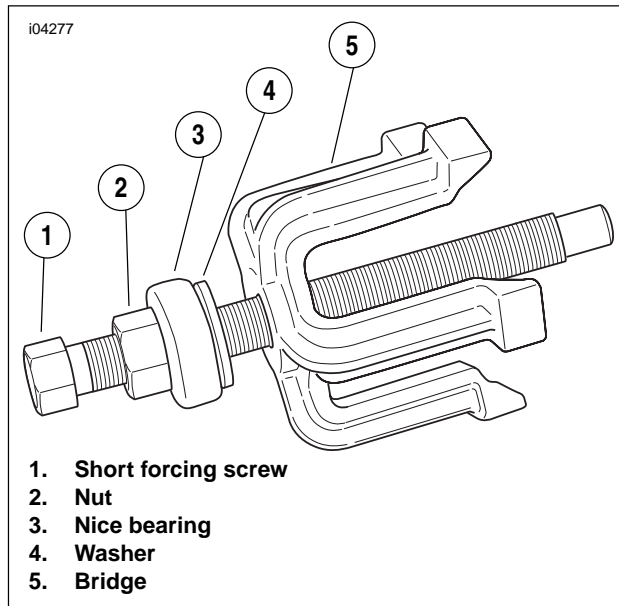

Figure 2-6. Assemble Puller
1. See Figure 2-6. Remove wheel bearings using WHEEL BEARING REMOVER/INSTALLER KIT (Part No. B-43993-50) and WHEEL BEARING REMOVER AND INSTALLER (Part No. HD-44060).
2. Sparingly apply EXTREME PRESSURE LUBRICANT (Part No. J-23444-A) to the threads of the short forcing screw (1) to prolong service life and ensure smooth operation.